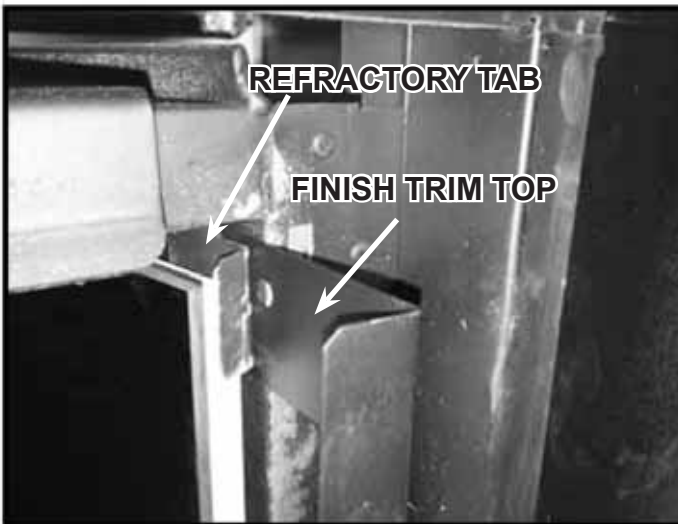

Figure 19. Bracket Tab
18. Install finish trim on the right side as shown in Figure 19. Slip the tab of the trim behind the refractory tab and push into position until it is flush with the outer edge of the firebox. Repeat process for the left side.